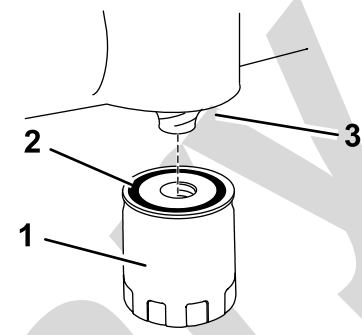

Figure 32
14. Install the replacement oil filter to the mounting pad. Turn the oil filter clockwise until the rubber gasket contacts the pad, then tighten the filter an additional 2/3 to 1 turn (Figure 32).